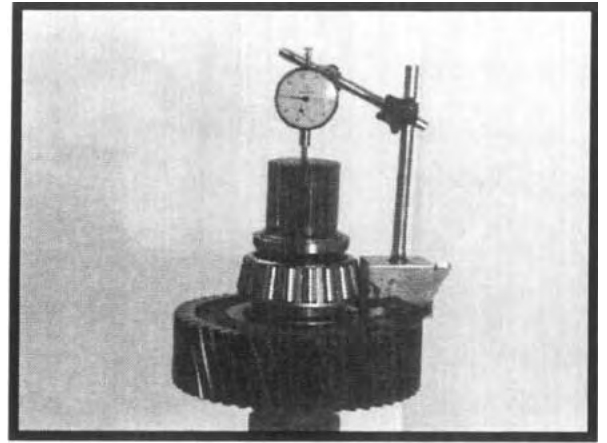

Figure 4.12
1. To facilitate reassembly, the gear end float on the shaft should be checked prior to disassembly. Install a dial indicator with a magnetic base as pictured in Figure 4.12. Lift upward on the gear and note the amount of end float. The specified amount of end float is between .000 and .002 inches. A greater amount usually indicates worn bearings.